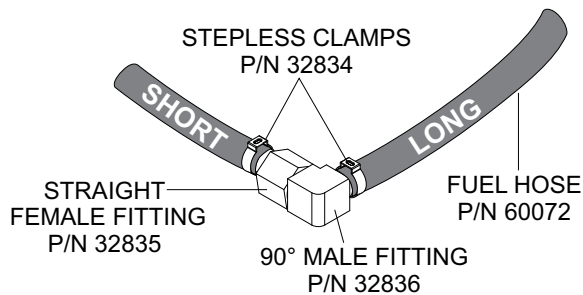

Figure 12. Connect Hoses to Fittings
9. Attach one end of the new **short** hose (P/N 60072) to female straight fitting (Figure 12). Attach stepless clamp (P/N 32834) and crimp.
10. Attach one end of the new **long** hose (P/N 60072) to 90° male straight fitting (Figure 12). Attach stepless clamp (P/N 32834) and crimp.